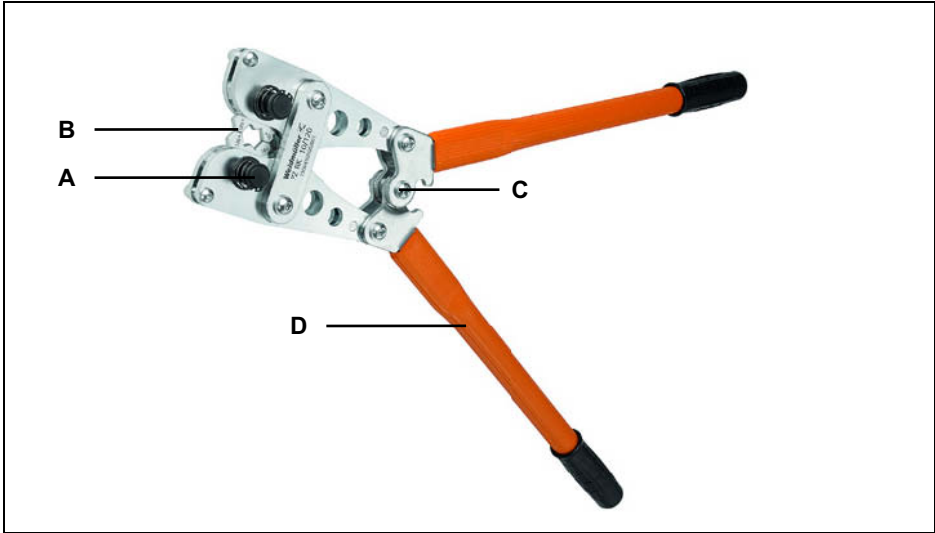

Figure 1 Components
- 4 Close the tool completely until the toggles are on top of each other (see Figure 1 on page 25).